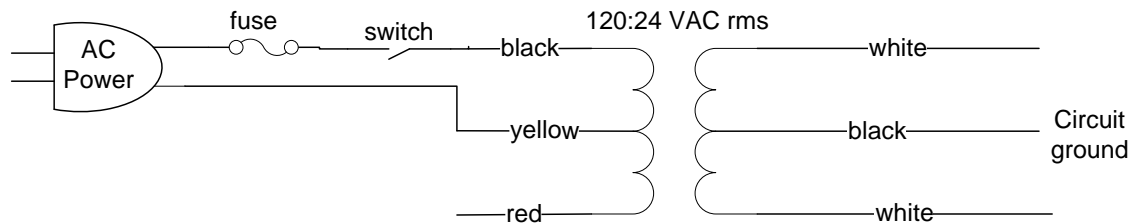

Figure 6: Schematic of transformer usage
- You can use the schematic (in the next sub-section: Figure 6), to help you in using the transformer.
Figure 6 is a schematic that illustrates the usage of the transformer.